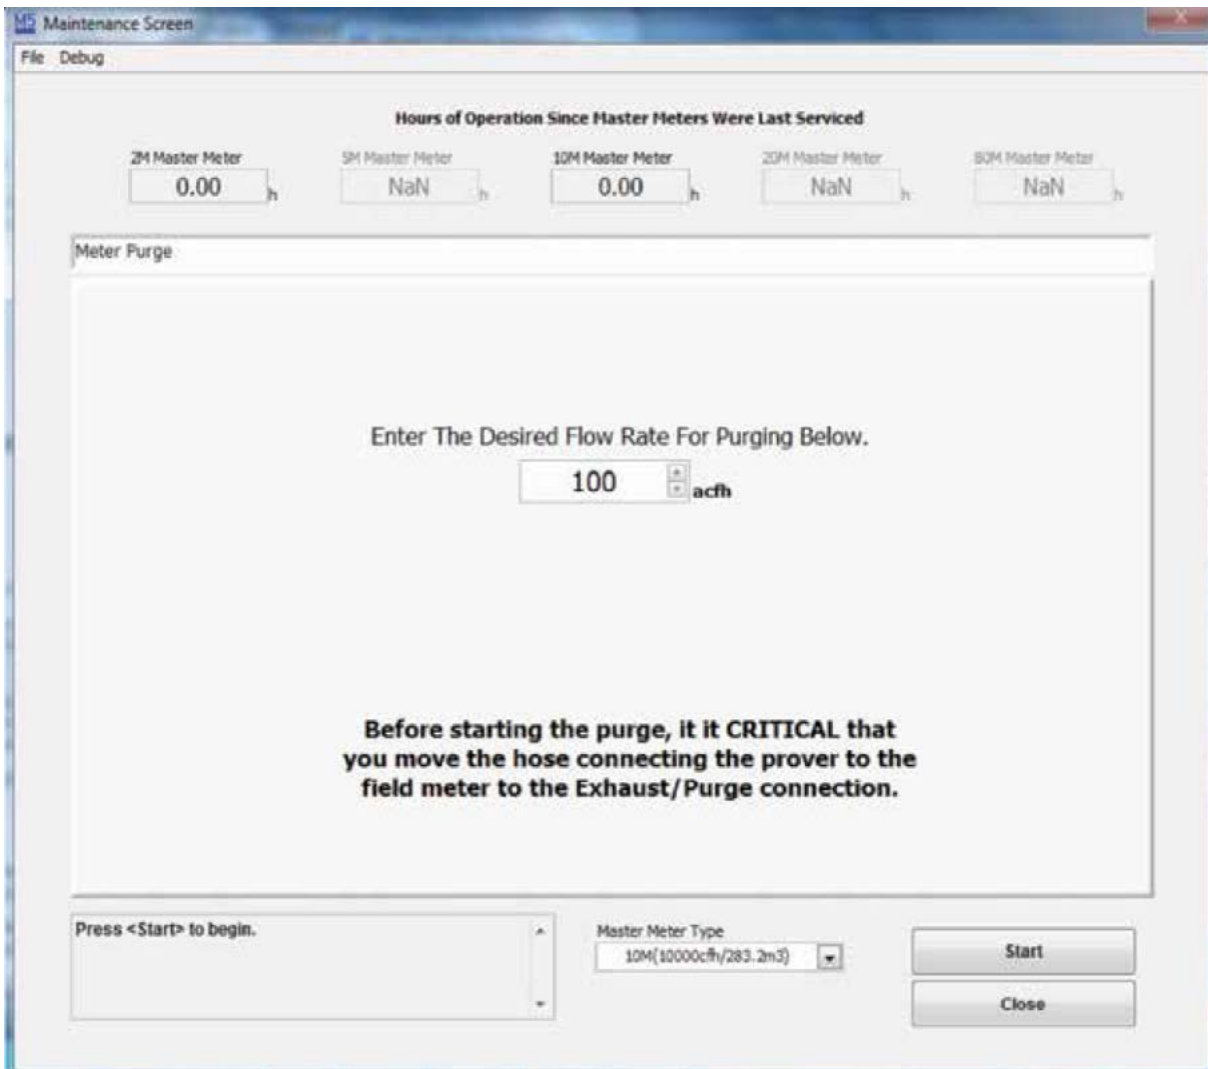

Figure 39: Meter Purge Selection
5. Select Prover Maintenance from the Prover Operations drop down menu, then select Meter Purge. Select the appropriate Master Meter type from the drop down menu near the bottom right of the screen. Enter the single flow rate at which to purge the meter into the box in the middle of the screen. Click on the Start button to activate the blowers for the meter purge. Refer to Figure 39.